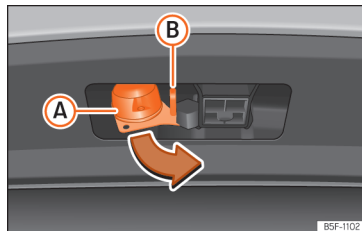

Fig. 271 Turning the 13-pin connector
- Grip the connector in area (A) and remove it in the direction of the arrow » Fig. 271.
- Open the cover of connector (A) and connect the trailer » Fig. 271.
- Hook the trailer retention cable into the safety eyelet » Fig. 271 (B). When hooked, the retaining cable must **curve** in all trailer positions in front of the vehicle (sharp curves, reverse, etc.).